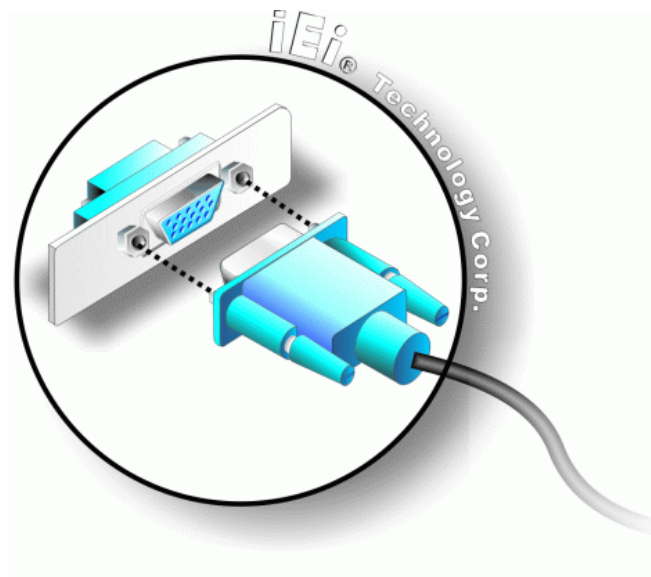

Figure 5-21: VGA Connector
- Step 3: Insert the VGA connector** Once the connectors are properly aligned with the insert the male connector from the VGA screen into the female connector on the NANO-9453. See **Figure 5-21**.